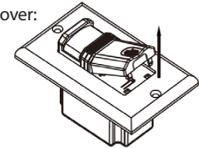

Figure 7:
2. Gently lift the screwdriver upward to unlatch the cover (see figure 7).